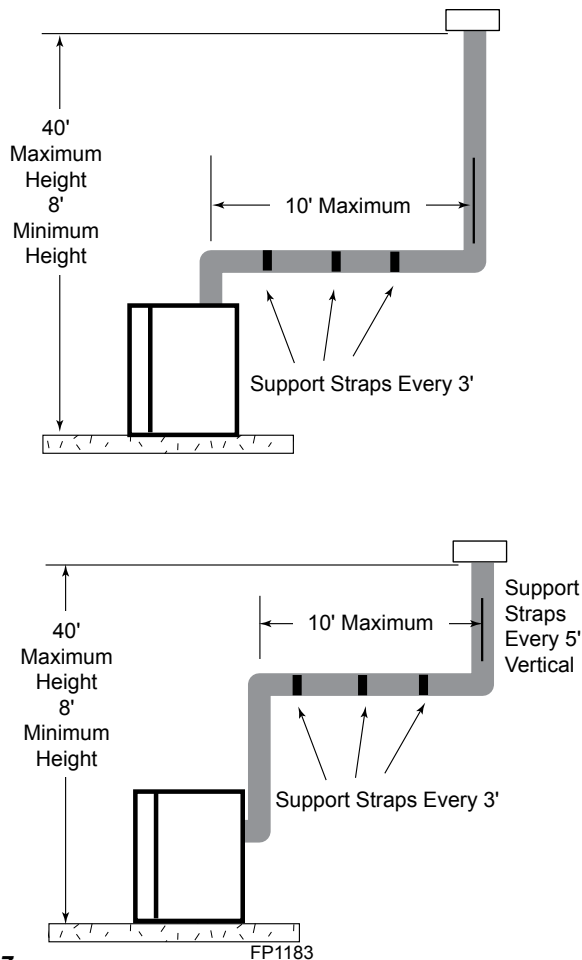

Figure 27 - Support Straps for Horizontal Runs
- Vertical installations up to 40' (12 m) in height. Up to a 10' (3 m) horizontal vent run can be installed within the vent system using a maximum of two 90° elbows. *Figure 27*
NOTE: If an offset is needed to avoid obstructions, you must support the vent pipe every three (3) feet. Use wall straps for this purpose. Refer to *Figures 27 & 29*. Whenever possible, use 45° elbows instead of 90° elbows. The 45° elbow offers less restriction to the flow of the flue gases and intake air.